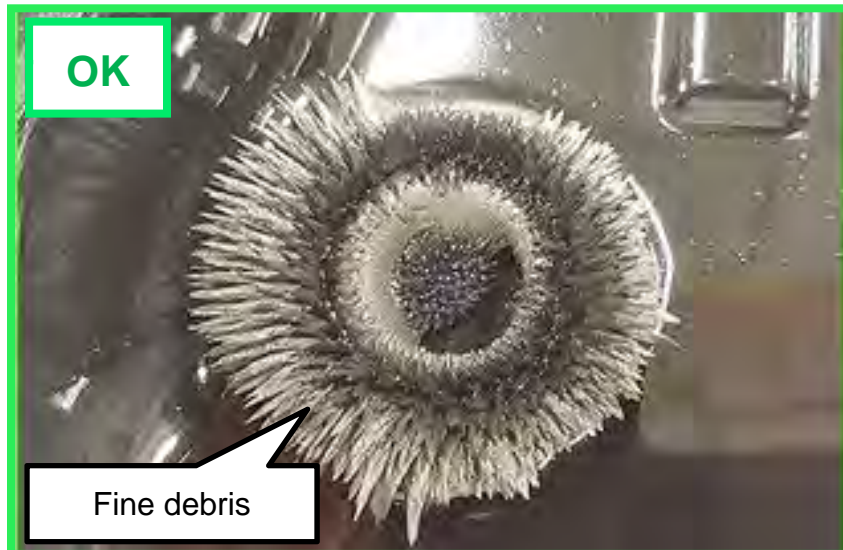
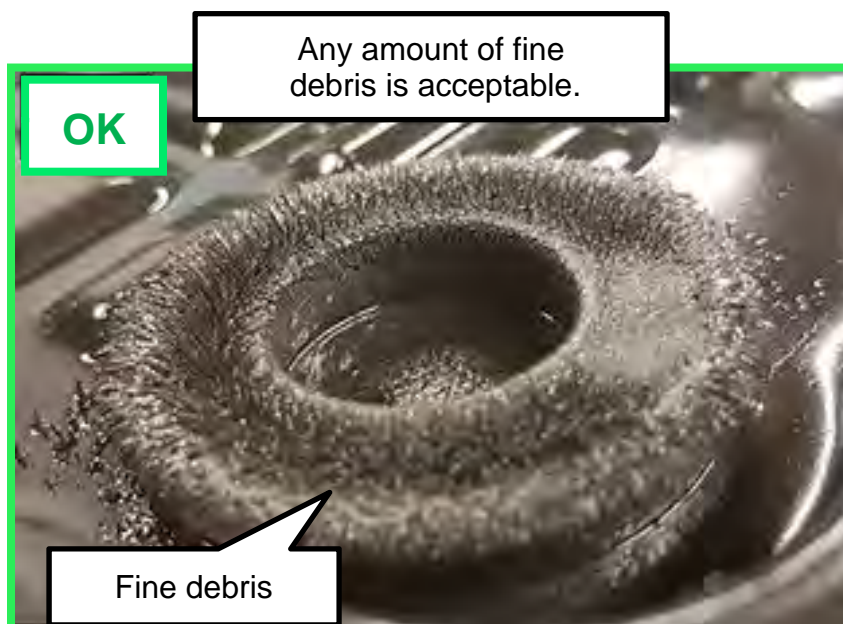

Figure 16
Figure 17
- Figure 16 and Figure 17 **are acceptable for this repair** – Magnets with fine debris or sludge in any amount.